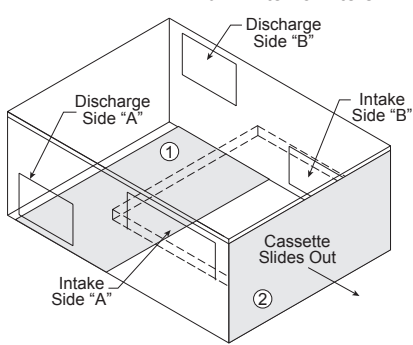

Figure 2
1. Access panel 1 (Figure 2) allows access for:
2. Access panel 2 (Figure 2) allows access for: